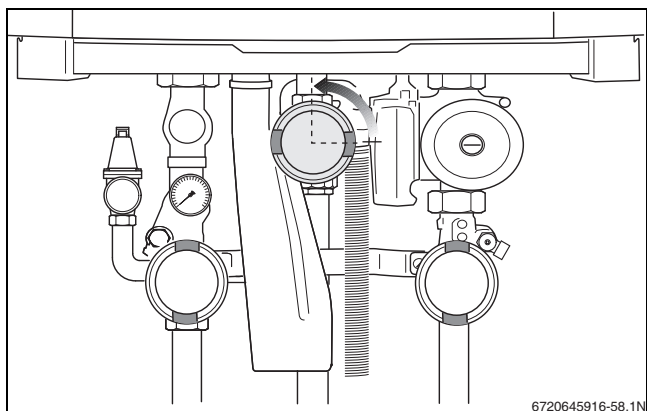

Fig. 61 Opening the gas valve
- ▶ Slowly open the gas valve by pushing on the gas valve and turning it counterclockwise through ¼ rotation (→ fig. 61). The gas valve is open when it is in the vertical position.
- ▶ Slowly open the gas valve by pushing on the gas valve and turning it ¼ rotation in an counterclockwise direction (→ fig. 61, page 36). The gas valve is open when it is in the vertical position.
- ▶ Slowly open the gas valve by pushing on the gas valve and turning it ¼ rotation in a counterclockwise direction (→ fig. 61).